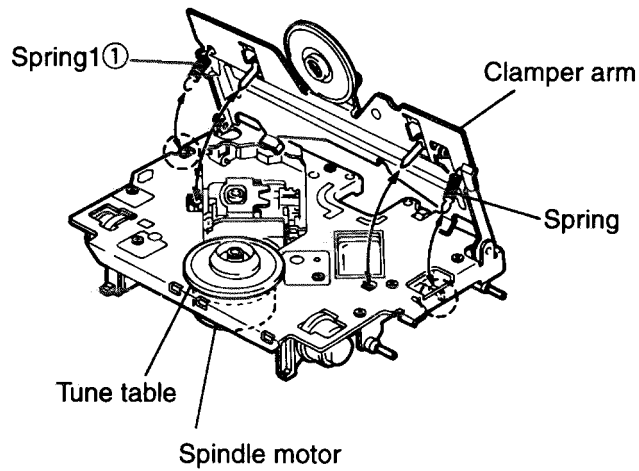

Fig.23
1. After turning back the CD mechanism to initial position, remove the two sparrings (k) and (i) on both the right and left sides of the clamper arm (See Fig.23 and Fig.24).